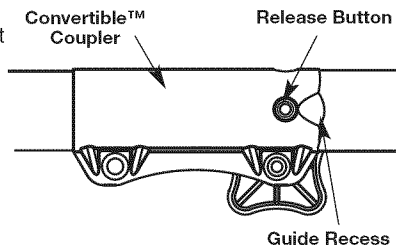
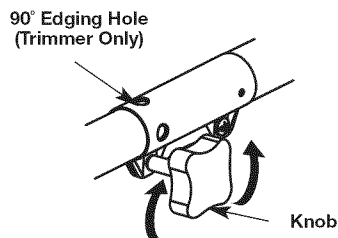

Fig. 2
Fig. 4
**WARNING:** Before operating this unit, be sure that the release button is fully snapped into the primary hole (Fig. 2), and that the knob (Fig. 4) is securely tightened.
- Turn knob counterclockwise to loosen (Fig. 4).
**NOTE:** Aligning the release button with the guide recess will help installation (Fig. 2).
- Turn the knob clockwise to tighten (Fig. 4).
**NOTE:** When using the line trimmer or other attachment to edge, lock the attachment release button into the 90° hole (Fig. 4).
- Turn the knob counterclockwise to loosen (Fig. 4).
- Press and hold the release button (Fig. 2).